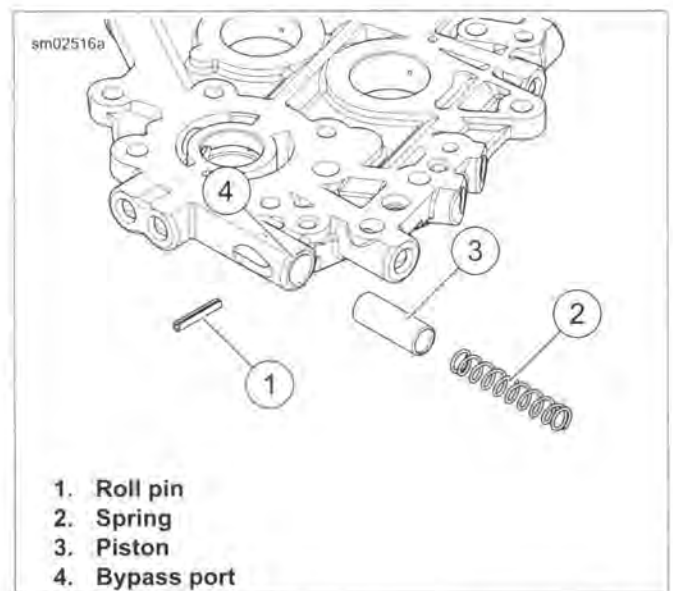

Figure 3-90. Oil Pressure Relief Valve Assembly
1. See Figure 3-90. Secure the cam support plate in a vise with soft jaws.
3. Use a 1/8 in punch to remove roll pin (1). Discard roll pin.
4. Remove spring (2) and piston (3) from bypass port.
2. See Figure 3-90. Lubricate piston (3) with SCREAMIN' EAGLE ASSEMBLY LUBE. Slide piston into bypass port of cam support plate with the open side facing outward.
3. Slide spring (2) into bypass port until seated in piston.
4. Start **new** roll pin (1) into hole in cam support plate. Compress spring using the blade of a small screwdriver.